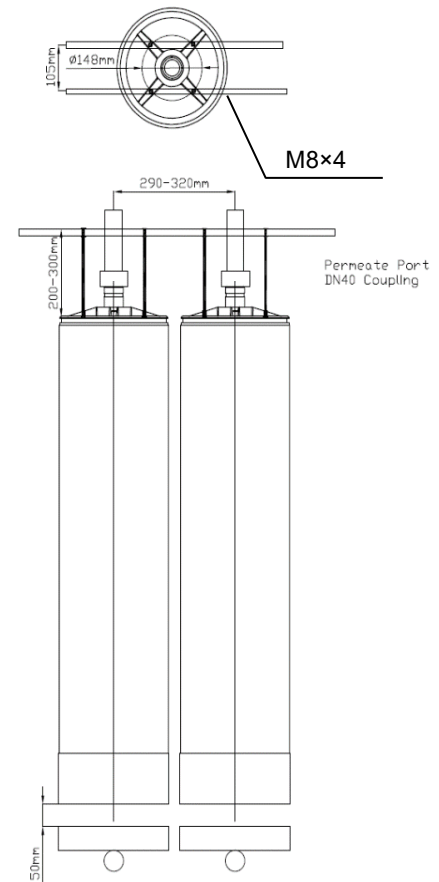
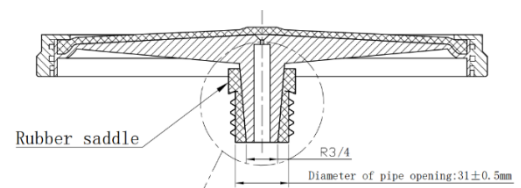

Figure 1. Module installation
Figure 2. Aeration disc installation diagram
1. SpiraSep 1060 ultrafiltration membrane is supported by membrane frame, and the frame size is designed according to the actual number of membranes. For the design distance which is based on the design of the membrane frame see Figure 1 for details. For the installation of Aeration disc, see Figure 2.